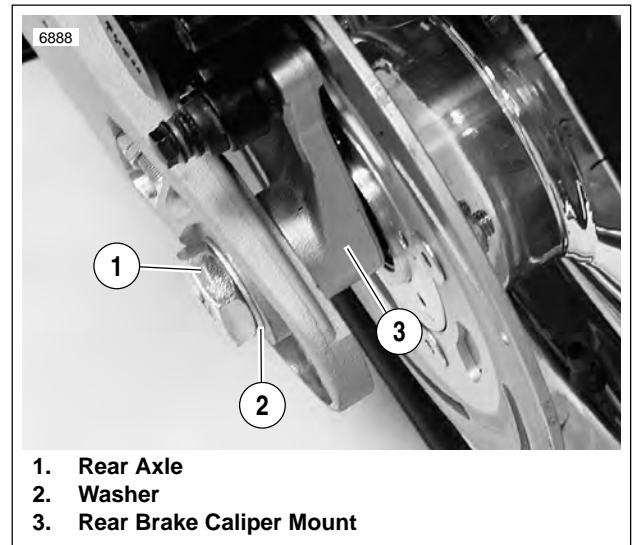

Figure 2-69. Rear Axle, Left Side
- b. See Figure 2-69. Insert axle (1) through washer (2) so that rounded side of washer will face swingarm. Continue through left side of swingarm, rear brake caliper mount (3) and wheel assembly.